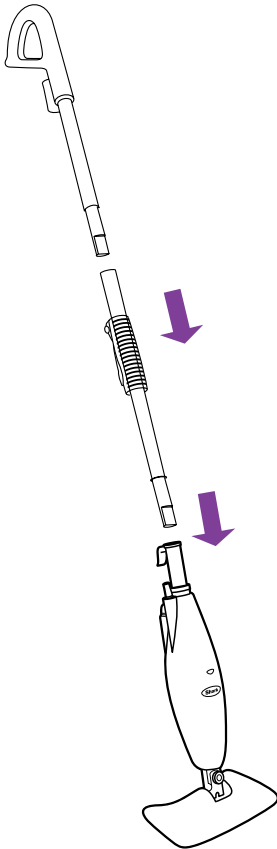

fig. 1
- 1 Fit together the extension tubes as shown in the illustration. (fig. 1)